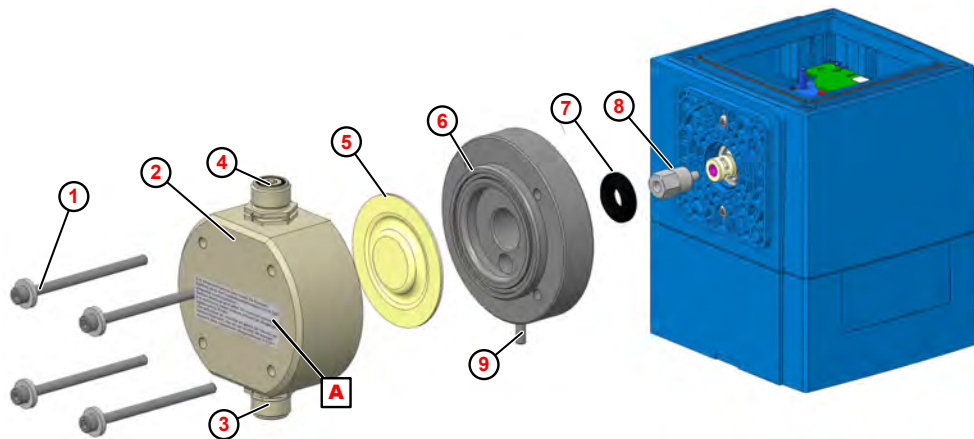

Fig. 24: Replacing the pump head, diaphragm and protective diaphragm
1. ➤ Unscrew and remove the suction and pressure valve ( Fig. 24 , ③ and ④ ).
2. ➤ Undo and remove the pump head screws ① .
3. ➤ Remove the pump head ② .
4. ➤ Unscrew and remove the diaphragm ⑤ .
5. ➤ Remove the intermediate plate ⑥
6. ➤ Remove the protective diaphragm ⑦ .
8. ➤ Place the intermediate plate so that the diaphragm rupture outlet ⑨ points downward.